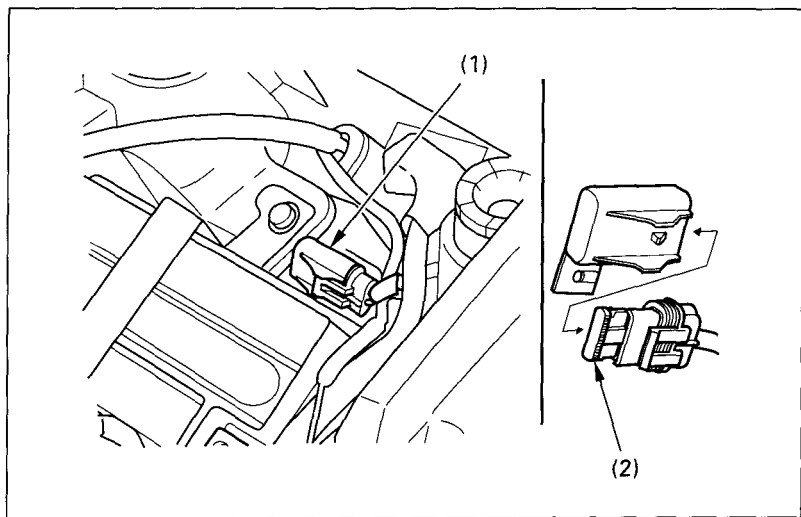

Fig. 4-18
As illustrated in Fig. 4-18, the fuse (2) is located in the battery compartment.
3. Remove the fuse holder assembly (Fig. 4-18).